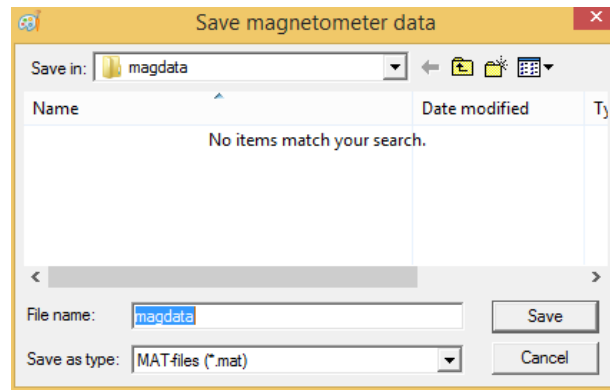

Figure 5.26: The 'magdata' subfolder automatically created in the 'Project' folder.
5. The user will be asked to save magnetometer data in the “magdata” subfolder (automatically created in the project folder) see **Figure 5.26**.
7. The user will be asked to select a "magdata.mat" (or other user-named "Magdata" file) in the same folder, select it (see **Figure 5.26**).